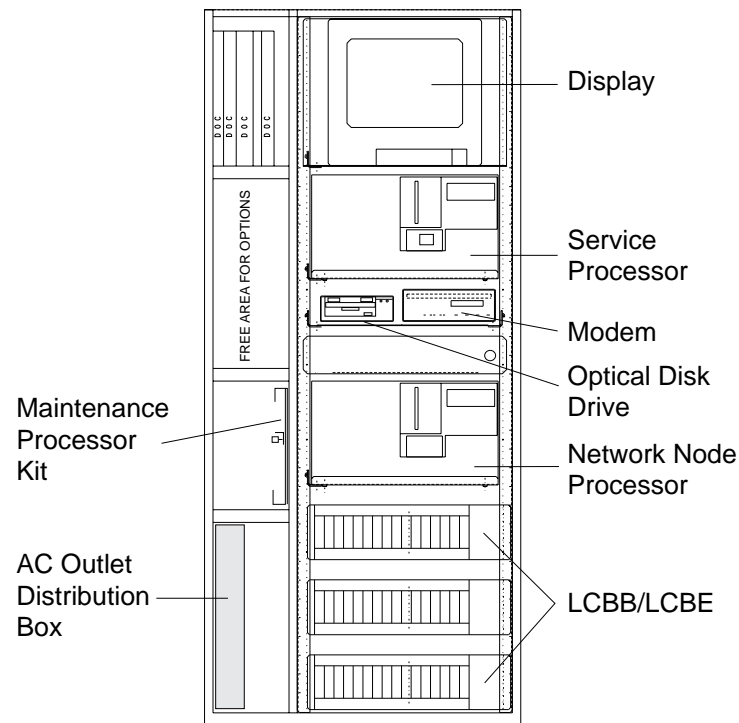

Figure 4-1. IBM Controller Rack Locations
- 1 Locate the network node processor in the rack processor using Figure 4-1.